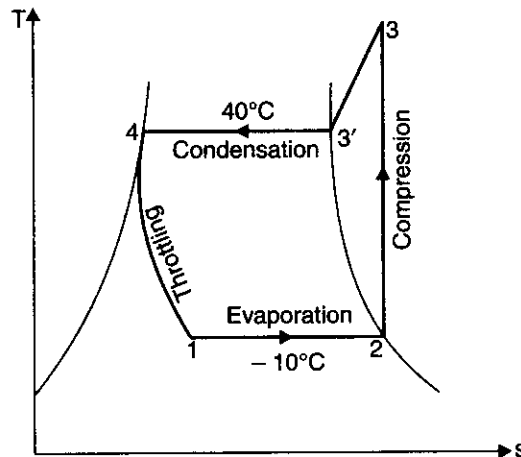

Fig. 14.29
**Solution.** The cycle is shown on  $T$ - $s$  diagram in Fig. 14.29.